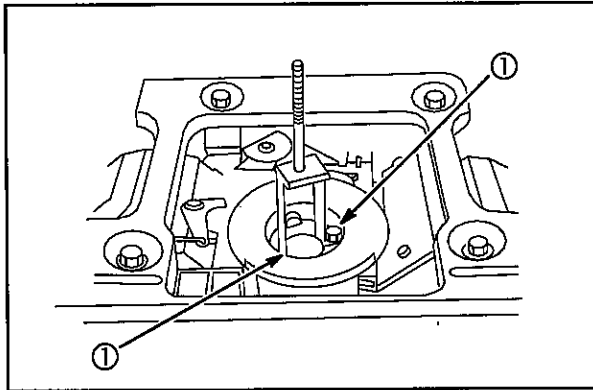

Fig. 5
4. Install the air cleaner base. Torque screws (1), **Fig. 5 to 60 in. lbs. (7 Nm)**. Connect the breather tube.